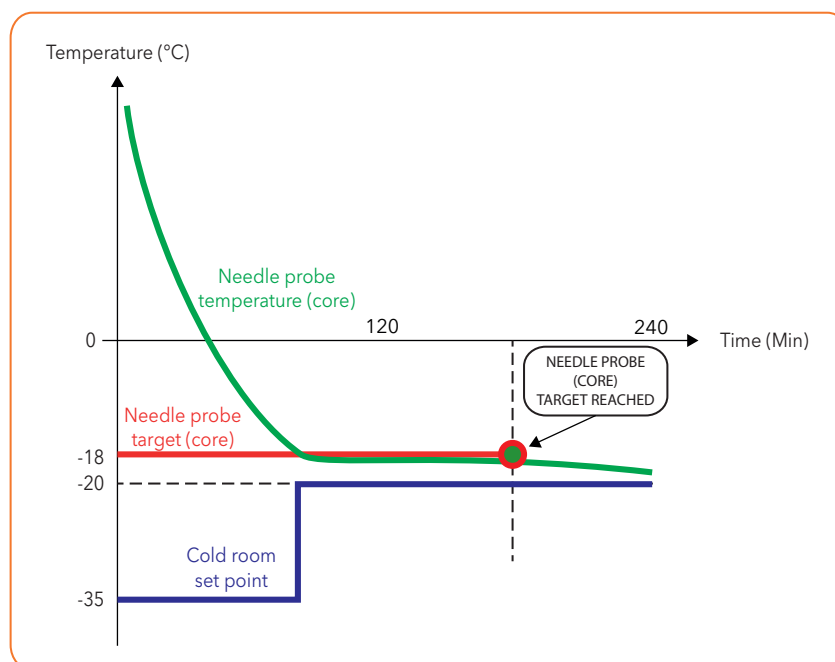

Fig. 12. Negative program with hard blast chill mode
- negative (freezing), with negative reference temperature (target temperature), and hard blast chill mode (**Fig. 12 on page 22**);
The numeric values shown in **Fig. 12 on page 22** are the default values.